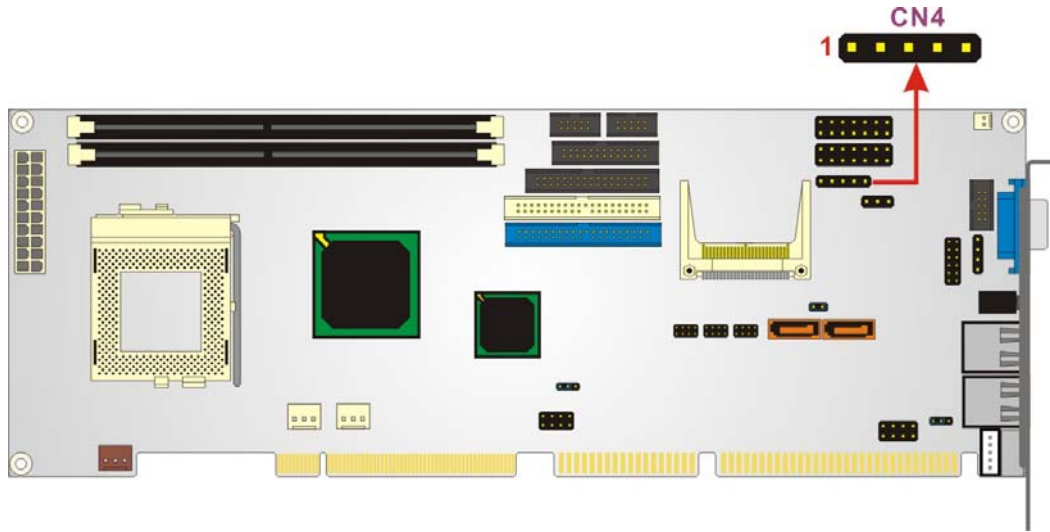

Figure 3-12: IrDA Connector Location
- CN Location: See Figure 3-12